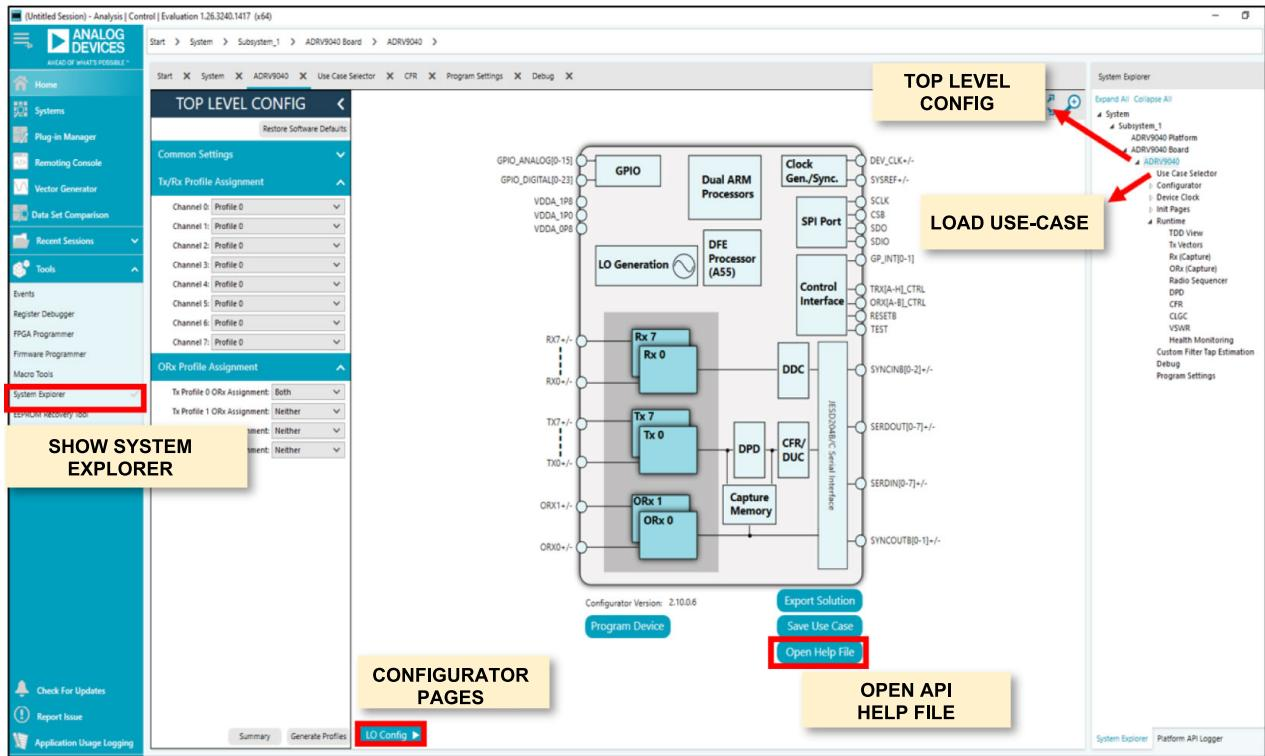
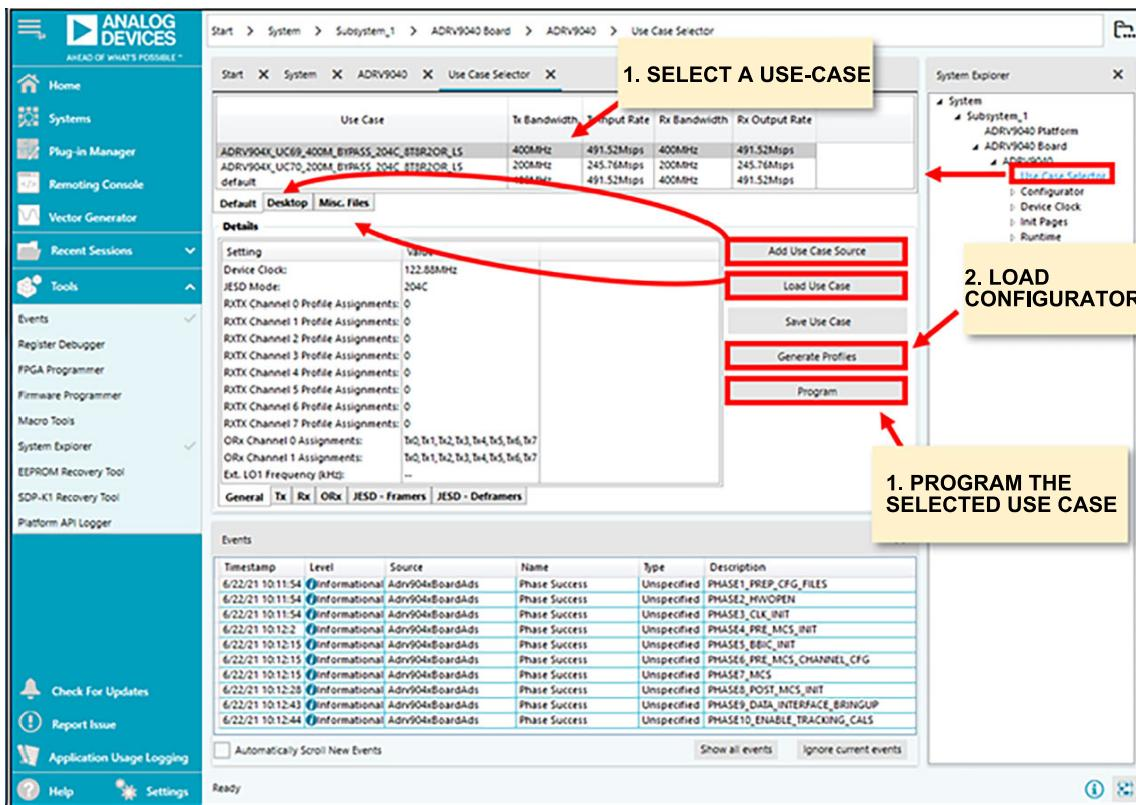

Figure 10. Launching the ADRV904x Plugin Opens the ADRV904x Configurator Top Level Config Page
Figure 11. Loading a Predefined Use Case from Use Case Selector Page
- ▶ **Top Level Config** (see Figure 10): maps various **Tx/Rx Profile Assignment** and **ORx Profile Assignment** channels to profiles, export the current state of the configurator as a JSON use case, view the device **Open Help File**, and access the **Configurator** pages.
- ▶ Subsequent **Configurator** pages can be used to configure the local oscillator (LO), carrier digital up conversion (DUC), transmitter, carrier digital down conversion (DDC), receiver, observation receiver, and JESD settings to arrive at and validate a desired ADRV904x use case.
- ▶ **Use Case Selector**: if running the selected use case default settings, refer to Figure 11. If running a modified use case, use a ADRV904x configurator at the top level as shown in Figure 11.
- ▶ Track the ADRV904x device programming phases though the ACE **Events** window, as shown in Figure 11.
1. Select the desired use case from **Use Case Selector** as shown in Figure 11.
Once the **Configurator** pages are loaded by generating profiles, the user must then modify the selected use case default settings as shown in Figure 11. Such a modified use case must be programmed from the **ADRV9040 Top Level Config** page as previously shown in the ADRV904x Plugin Overview section. The modified use case can also be exported as a .json file from the **ADRV9040 Top Level Config** page.